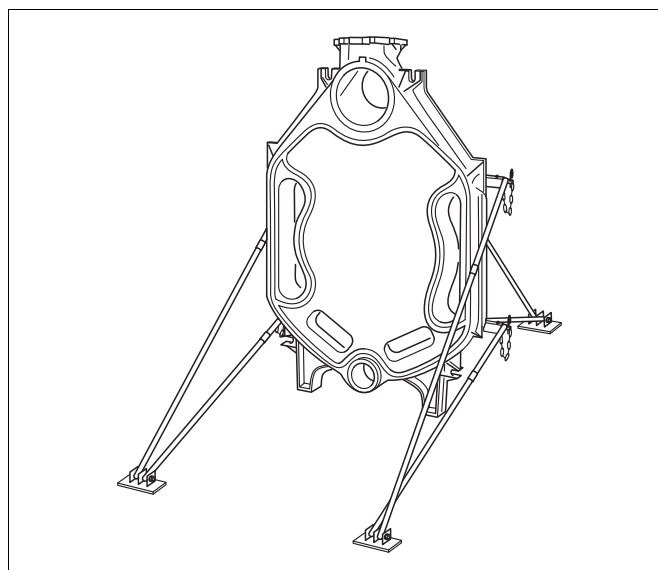
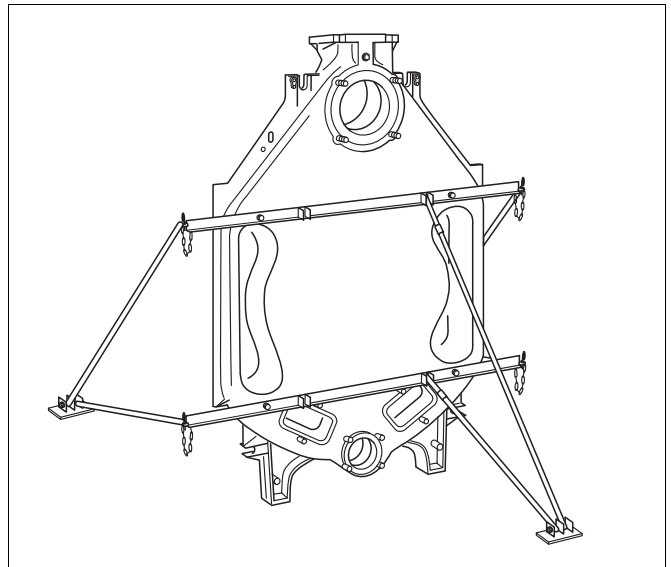

Fig. 9 Rear section with mounted installation template
Fig. 11 Secure the installation template
- Position the rear section and secure against tipping over with the installation template (Fig. 11 and Fig. 9 as well as the separate installation instructions for the installation template).